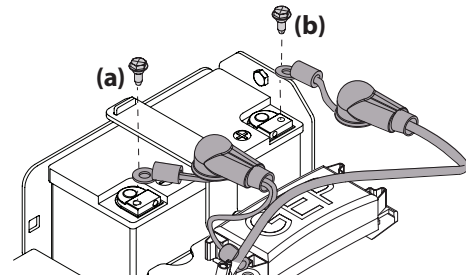

Figure 5
2. Remove the vertical mount bolt securing the black negative battery lead (a) to the negative battery post (marked NEG (-)). Move the cable away from the negative battery post. See Figure 5.
3. Remove the vertical mount bolt securing the red positive battery lead (b) to the positive battery post (marked POS (+)). Move the cable away from the positive battery post. See Figure 5.